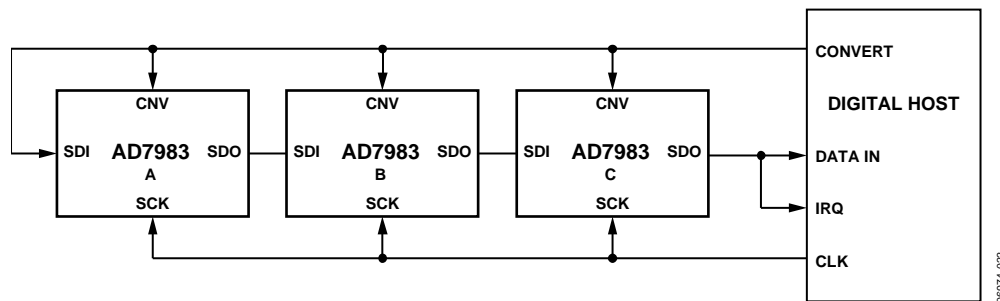
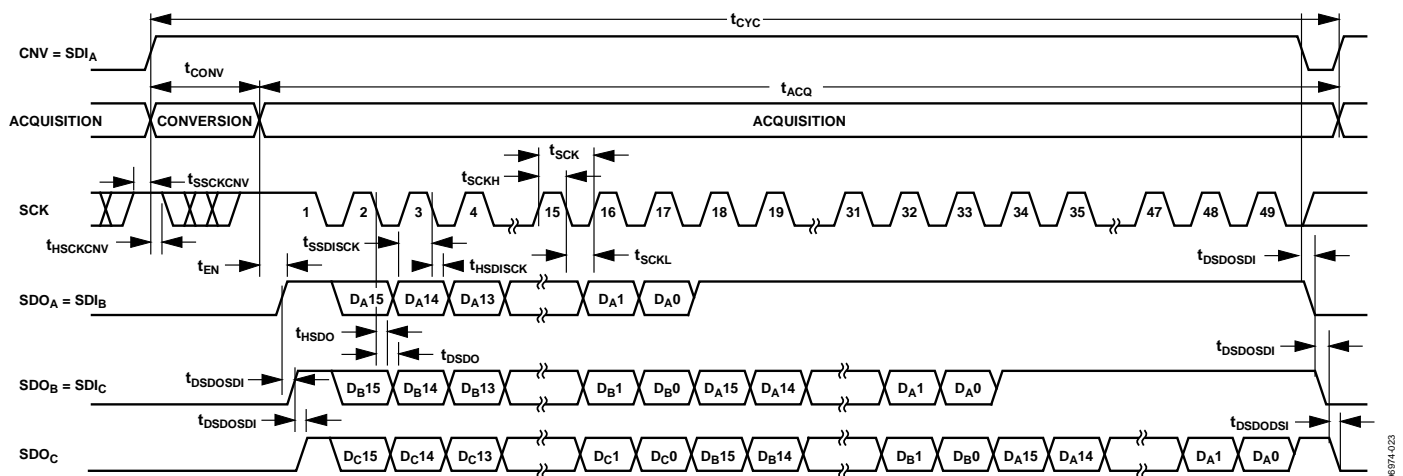

Figure 35. Chain Mode with Busy Indicator Connection Diagram
Figure 36. Chain Mode with Busy Indicator Serial Interface Timing
- In chain mode if SCK is high during the CNV rising edge (see Figure 36).
A connection diagram example using three AD7983s is shown in Figure 35, and the corresponding timing is given in Figure 36.
When SDI and CNV are low, SDO is driven low. With SCK high, a rising edge on CNV initiates a conversion, selects the chain mode, and enables the busy indicator feature. In this mode, CNV is held high during the conversion phase and the subsequent data readback. When all ADCs in the chain have completed their conversions, the SDO pin of the ADC closest to the digital host (see the AD7983 ADC labeled C in Figure 35) is driven high. This transition on SDO can be used as a busy indicator to trigger the data readback controlled by the digital host. The AD7983 then enters the acquisition phase and goes into standby mode. The data bits stored in the internal shift register are clocked out, MSB first, by subsequent SCK falling edges. For each ADC, SDI feeds the input of the internal shift register and is clocked by the SCK falling edge. Each ADC in the chain outputs its data MSB first, and  $16 \times N + 1$  clocks are required to readback the N ADCs. Although the rising edge can be used to capture the data, a digital host using the SCK falling edge allows a faster reading rate and, consequently, more AD7983s in the chain, provided the digital host has an acceptable hold time.